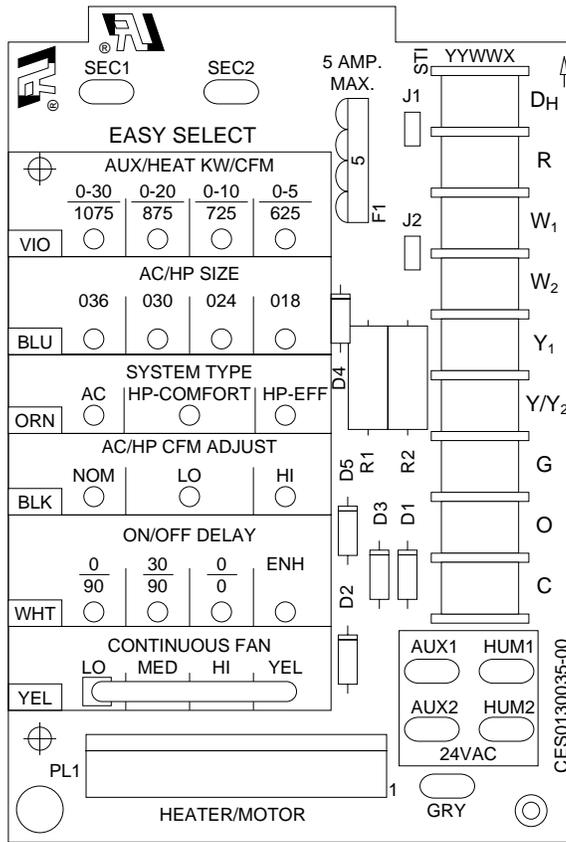

Fig. 11—Easy Select Board
NOTE: Layout of actual PCB is depicted in Fig. 11 and 25.
The Easy Select taps are used by installer to configure system. The motor/ECM2 uses selected taps to modify its operation to a pre-programmed table of airflows. Airflows are based on system size and mode of operation and those airflows are modified in response to other inputs such as the need for de-humidification. (See Fig. 11.)
The installer must select the auxiliary heat airflow approved for application with kw size heater installed. Each select pin is marked with a range of heaters for which airflow (also marked) is approved. For increased comfort select the narrowest kw range matching the heater size, for example, 0-10 for a 10-kw heater. This airflow must be greater than the minimum CFM for electric heater application with the size system installed for safe and continuous operation. Note that airflow marked is the airflow which will be supplied in emergency heat mode and heating mode on air conditioners when electric heat is primary heating source. To ensure safe heater operation in heat pump heating mode when electric heaters are energized, the motor/ECM2 will run the higher of heat pump airflow and electric heater airflow. The factory default selection is largest heater range approved. (See Fig. 11.)
The factory default setting for air conditioner or heat pump size is largest unit meant for application with model of fan coil purchased. The installer needs to select air conditioner or heat pump size to ensure that airflow delivered falls within proper range for size of unit installed in all operational modes. (See Fig. 11.)
The factory setting is AC. (See Fig. 11.)
Select low, nominal, or high airflow. The factory selection is NOM. The adjust selections HI/LO will regulate airflow supplied for cooling and heat pump heating modes only, +15 percent and -10 percent respectively. The adjust selection options are provided to adjust airflow supplied to meet individual installation needs for such things as noise, comfort, and humidity removal. (See Fig. 11.)
Select desired time delay profile. Four motor operation delay profiles are provided to customize and enhance system operation. (See Fig. 11.) The selection options are:
Select desired Continuous fan profile LO, MED, or HI. Airflow are provided to customize and enhance the continuous fan functions. (See Fig. 11.) The possible selections are:
1. Check transformer and thermostat wiring. (See Fig. 11 and 13.) Be sure transformer is not shorting out because thermostat wires are miswired.
2. Check wiring of relays. (See Fig. 11 and 13.) Be sure low-voltage and high-voltage wiring are connected to proper sequencers.